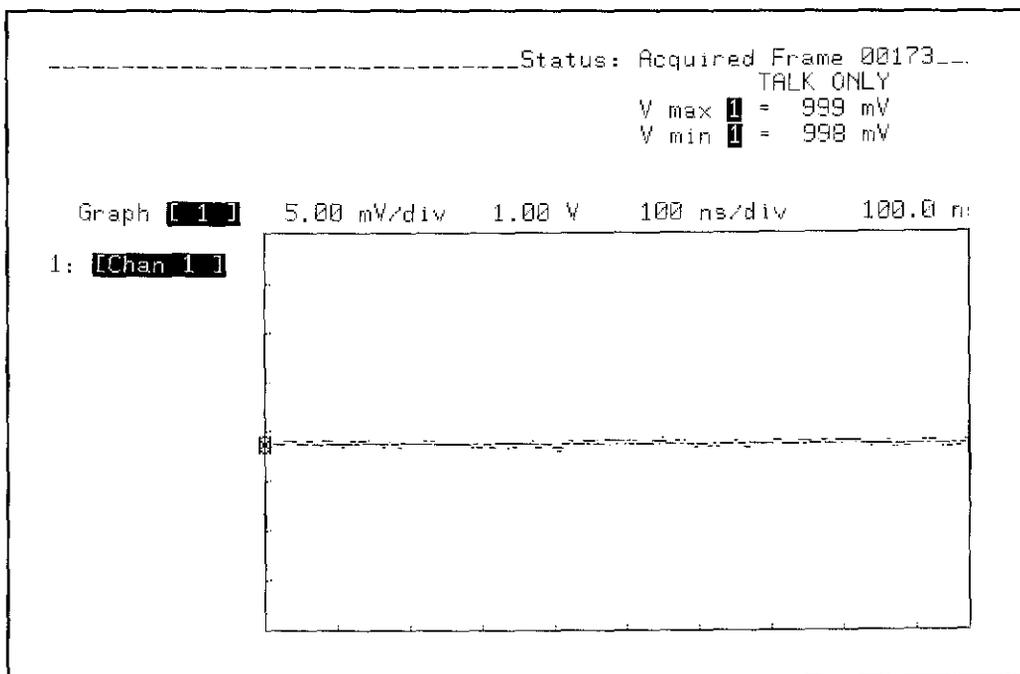

Figure 3-3. DISPLAY Waveform
5. The display should appear similar to figure 3-3.